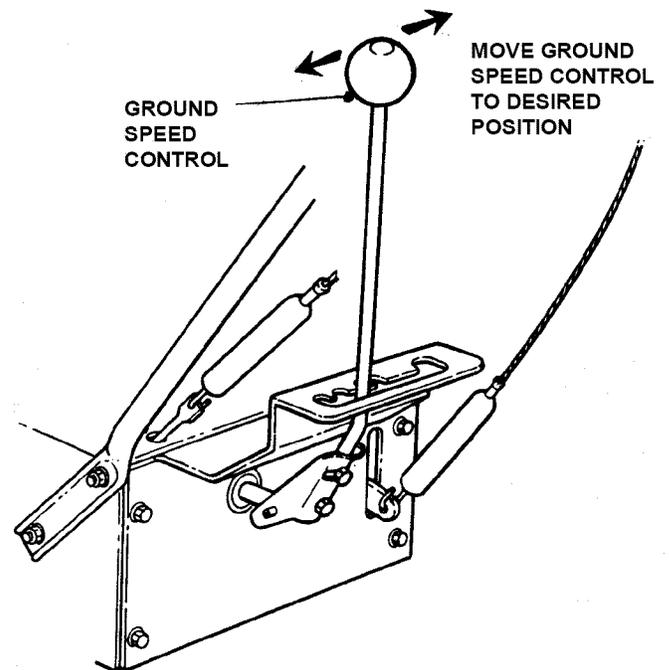

FIGURE 2.5
1. Move ground speed control to the desired speed position. See Figure 2.5.
**IMPORTANT:** This snow thrower has four forward speeds and one reverse speed. Refer to Figure 2.5.
1. Move ground speed control to the desired speed position. Refer to Figure 2.5.